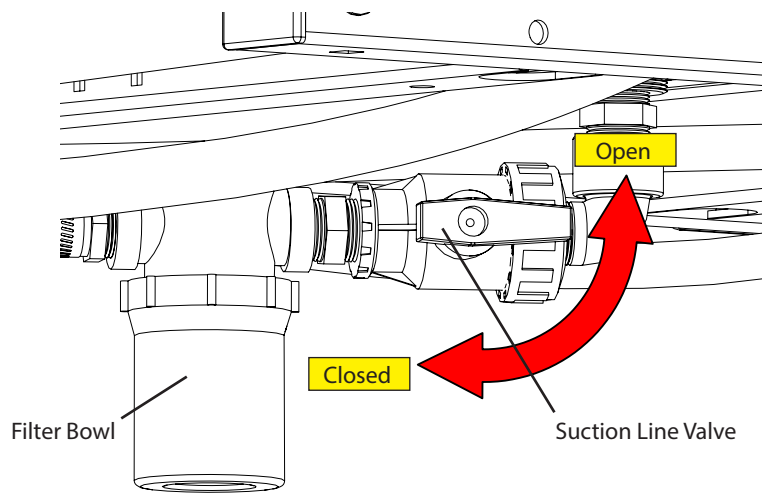

Figure 2: Suction Line Valve
7. Open the suction line valve (Figure 2) located underneath the tank.